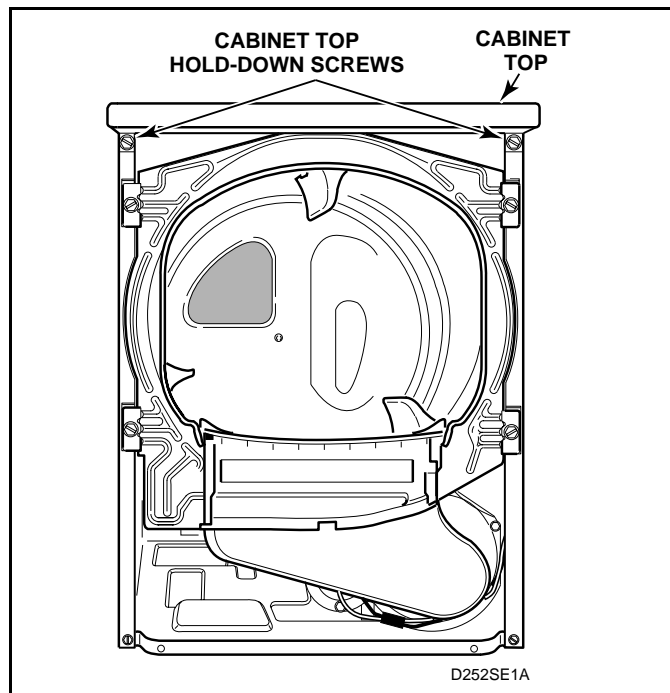

Figure 26
- Remove two screws holding cabinet top to front flange of cabinet. See *Figure 26*.